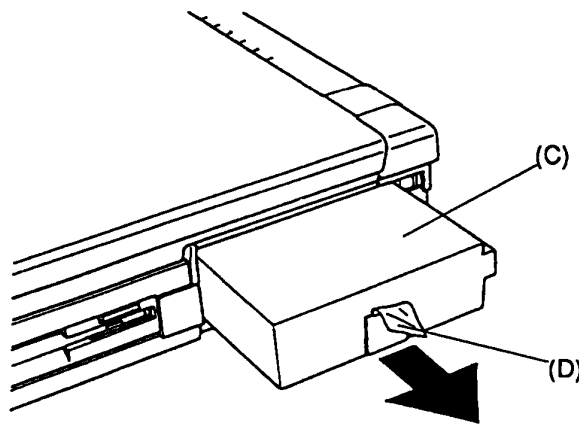

Figure 4-2 Removing the battery pack
3. Firmly grasp the battery pack pull tab (D) and pull the battery (C) out of the computer (Figure 4-2).